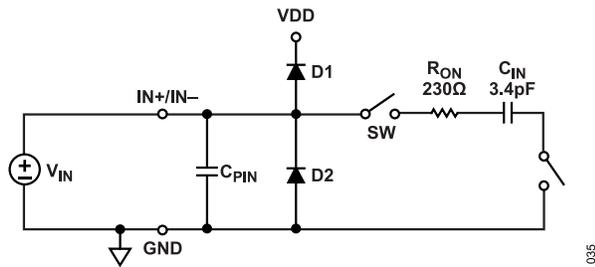

Figure 35. Equivalent Analog Input Circuit
Figure 35 shows an equivalent circuit for each of the AD4050/AD4056 analog inputs (IN+ and IN-). The analog inputs are modeled as a switched capacitive load. During the acquisition phase, the sampling switch (SW) connects each input pin to the 3.4 pF sampling capacitor (C_{IN}) in series with the 230 Ω switch on resistance (R_{ON}). During the conversion phase, SW disconnects to sample the voltages on the IN+ and IN- pins onto the sampling capacitors. D1 and D2 represent the ESD diodes from the IN+ and IN- pins to the VDD supply and GND, respectively. C_{PIN} represents the pin capacitance of each input pin to GND and is typically 2 pF.